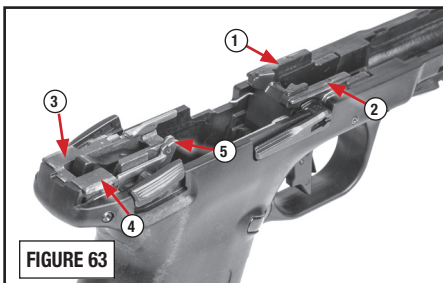

FIGURE 63
- There are eight lubrication points (FIGURES 63 and 64) where a single drop of high-quality firearm lubricant should be applied. This will ensure proper lubrication.